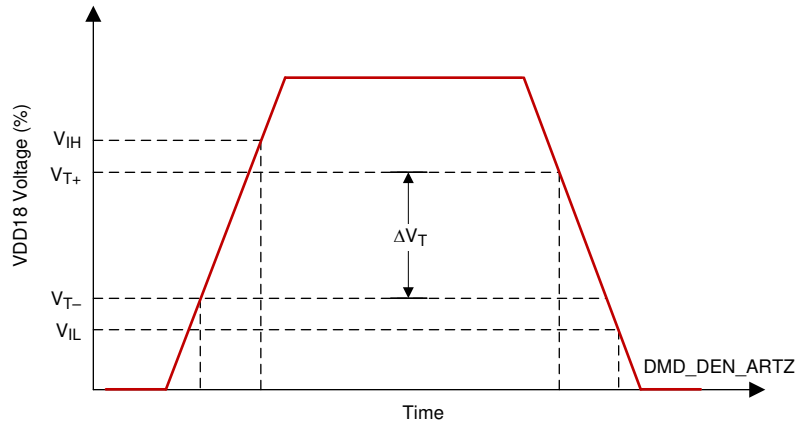

图 6-9. LVCMOS Input Hysteresis
(1) See Figure 6-9 and Figure 6-10 LVC MOS Rise, Fall Time Slew Rate Figures. Specification is for DMD\_DEN\_ARSTZ pin (LVC MOS).